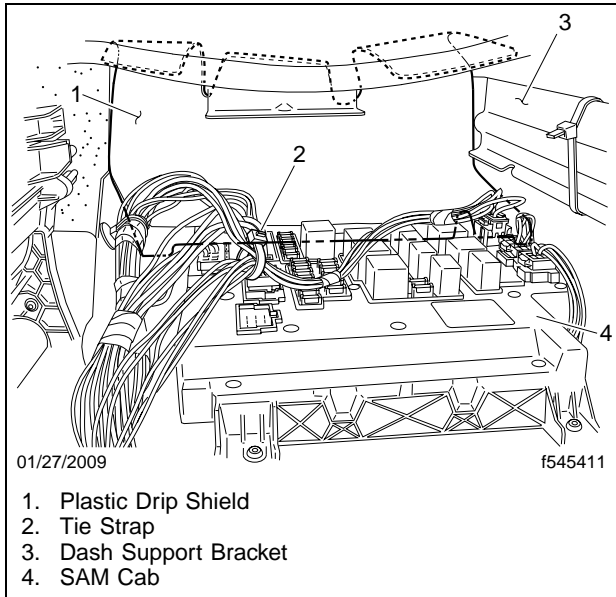
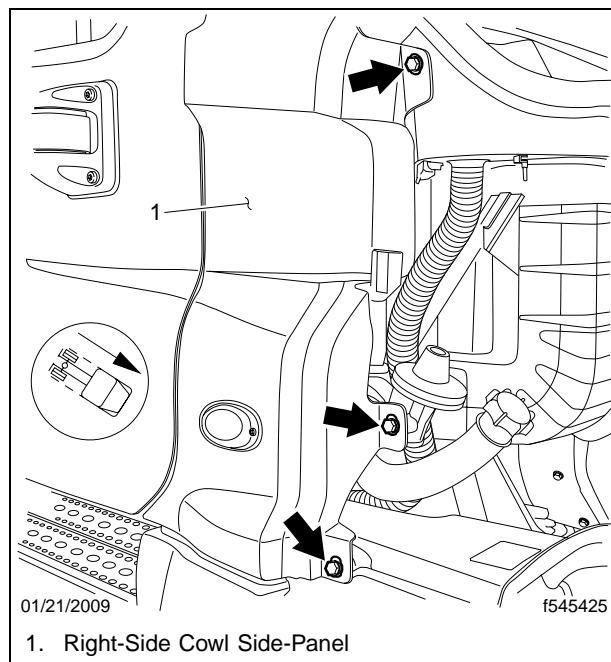

**Fig. 5, New Drip Shield**
**Fig. 6, Drip Shield Installed and Wiring Tie-Strapped**
11. Install the new plastic drip shield behind the SAM Cab, between it and the frontwall. See **Fig. 5** and **Fig. 6**. Make sure the bottom edge of the shield clears the forward edge of the SAM Cab. Bend the shield to fit the area. It is to fit behind the defroster duct and (if present) the Z-bracket.